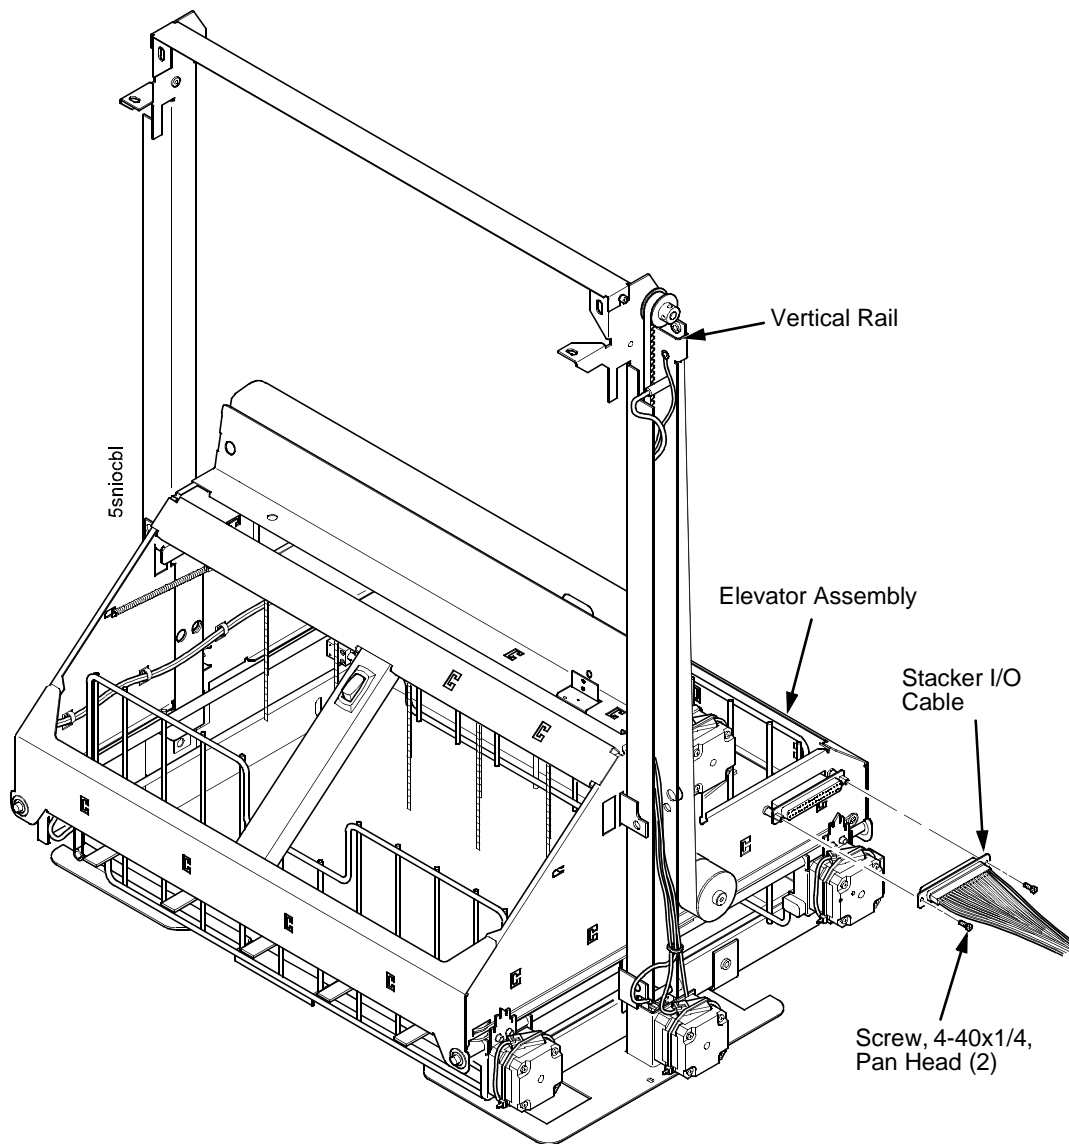

Figure 77. The Elevator I/O Cable
16. Position the elevator assembly at the bottom of the vertical rails. (Figure 77.)
17. Connect the elevator I/O cable to the elevator assembly and install the two 4-40 x 1/4 inch screws, as shown in Figure 77.